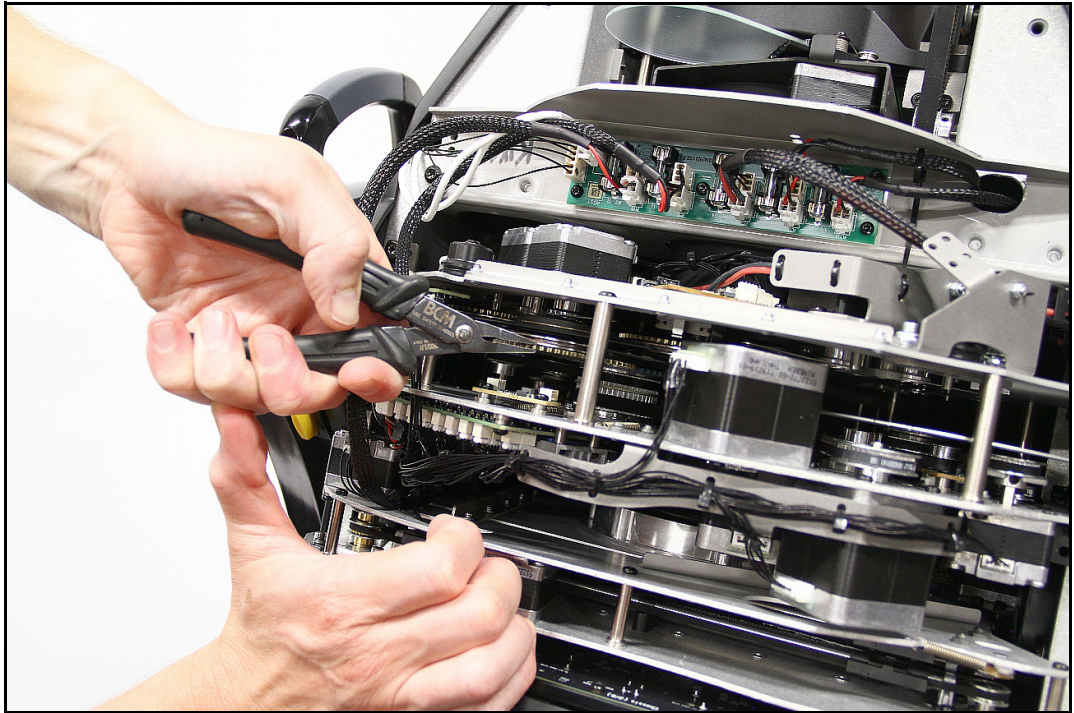

Figure 15: Removing a goboholder from Gobo Wheel 1
3. See Figure 15. Using a pair of flat-nosed pliers, grasp the teeth of the goboholder firmly and pull the goboholder out of its clip in the gobo wheel.